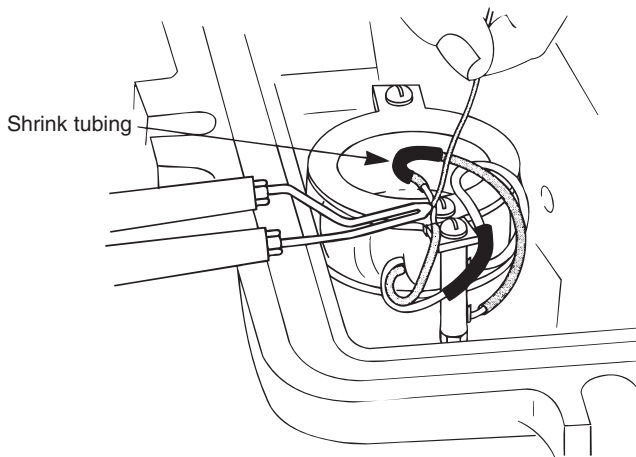

Figure 5. Splicing CT leads
12. Cut the CT leads to leave a stub approximately 3" long. Strip the ends, slide the shrink tube over the wire, splice, and solder the leads together. Remove any sharp edges or burrs. See Figure 5.